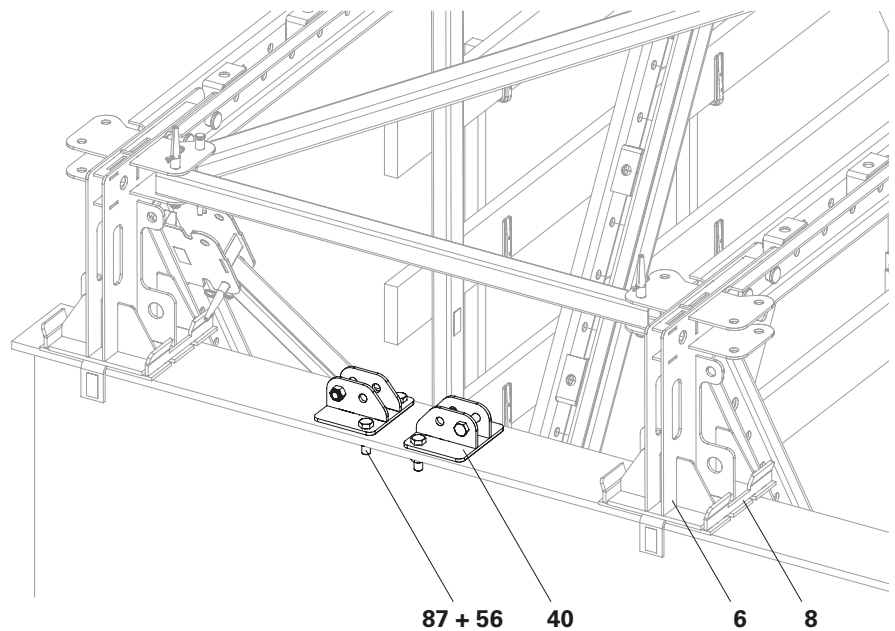

Fig. C7.02
2. Secure bolt ISO 4017 M20 x 70 **(87)** with hex. nut ISO 4032 M20 **(56)** (Fig. C7.02)